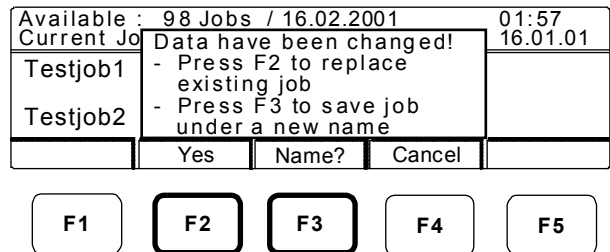

Figure 14-5. Job-Management Menu with Message
1. Press F1 (Save). The “Data have been changed” message displays (Figure 14-5).